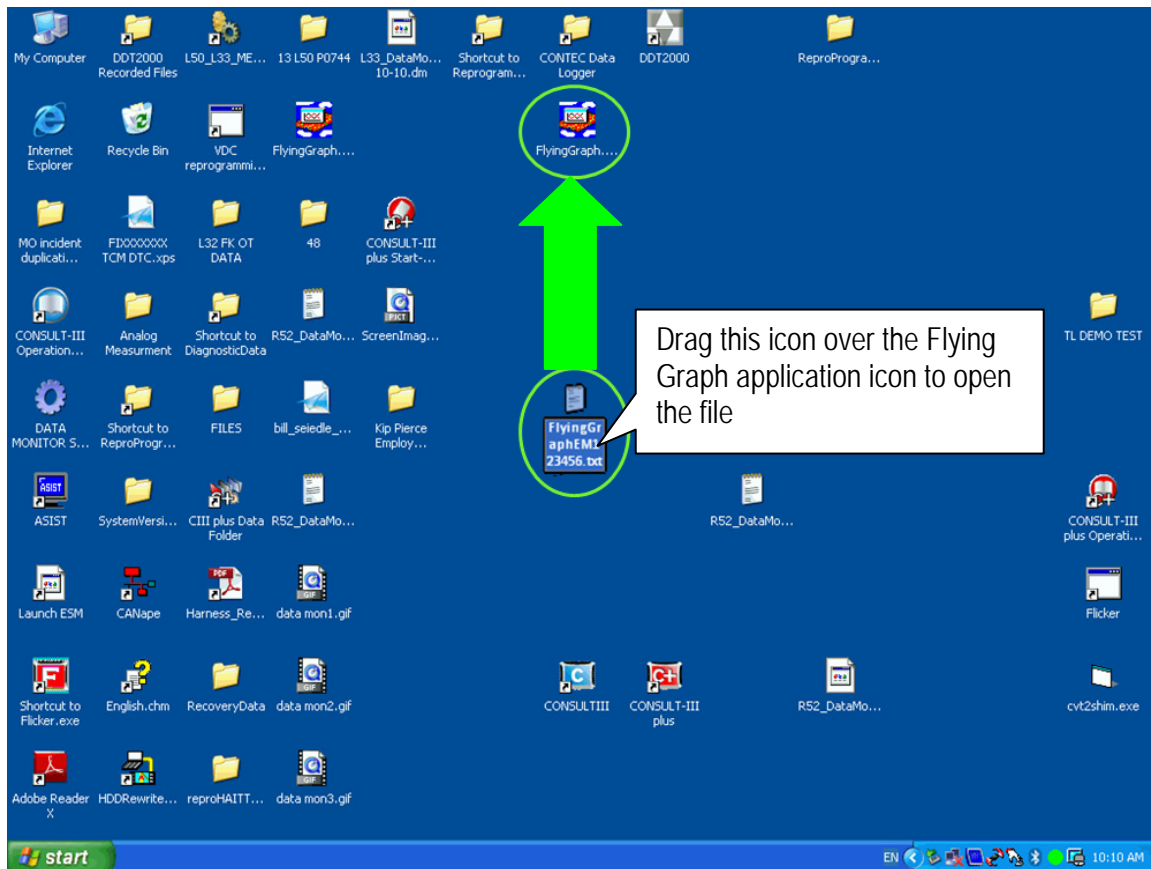

Figure 12
- For an illustration of the C-III plus desktop shortcut to the Flying Graph application see Figure 12 on the next page.
10. Open the .txt file saved to the Consult PC desktop in step 9 by dragging the text file on the desktop over the icon for the Flying Graph application (see Figure 12 below).